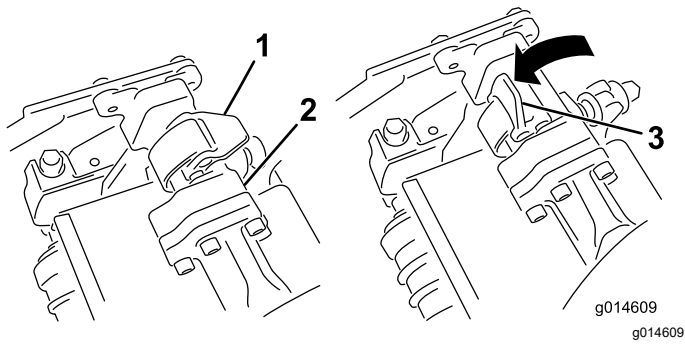
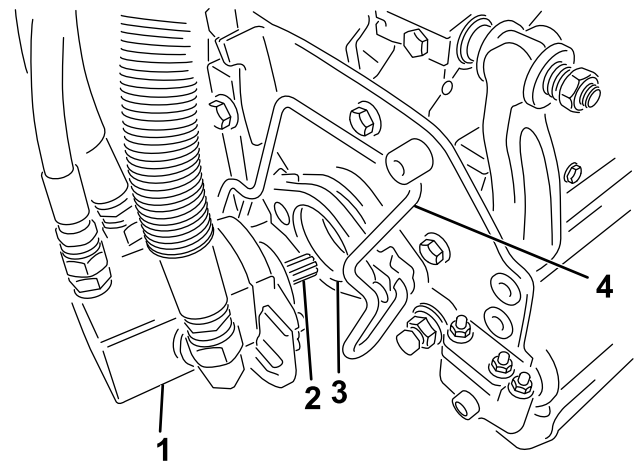

Figure 48
Figure 49
3. With the latches on the suspension-arm bar pointing up (i.e., open) (Figure 48), push the suspension arm down so that the bar fits over the bar across the top of the cutting unit (Figure 49).
- 4. Close the latches down and around the cutting-unit bar and lock them in place (Figure 48).
4. Open the latches on the suspension-arm bar of the cutting unit you are removing (Figure 48).